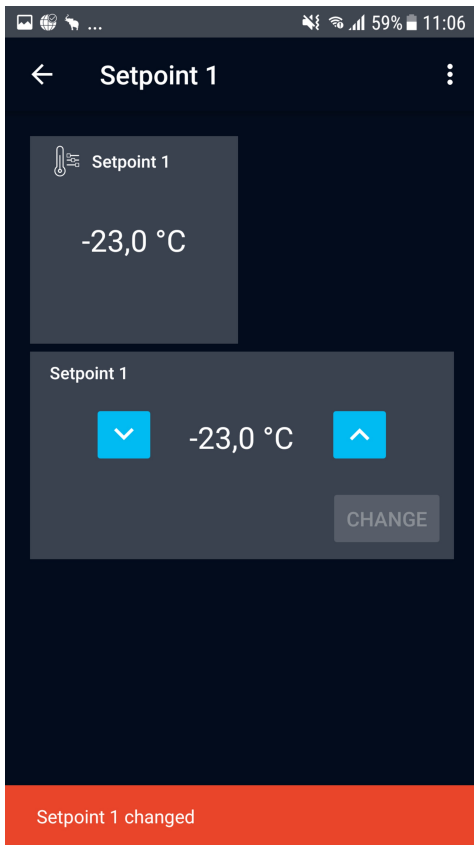

Figure 13: Setting detail view for changing the setpoint
2. If the app is in focus, an *Android Snackbar Message* is displayed above the bottom edge of the screen (see Figure 13) if an incident occurs. The Snackbar displays the error message in
You can retain an overview of the current sensor values and setpoints for the refrigeration unit in the “Temperature analysis” area. By tapping on a setpoint detail widget you can also set the corresponding setpoint directly (see Figure 10). You are informed whenever the setpoint is changed (see Figure 13).